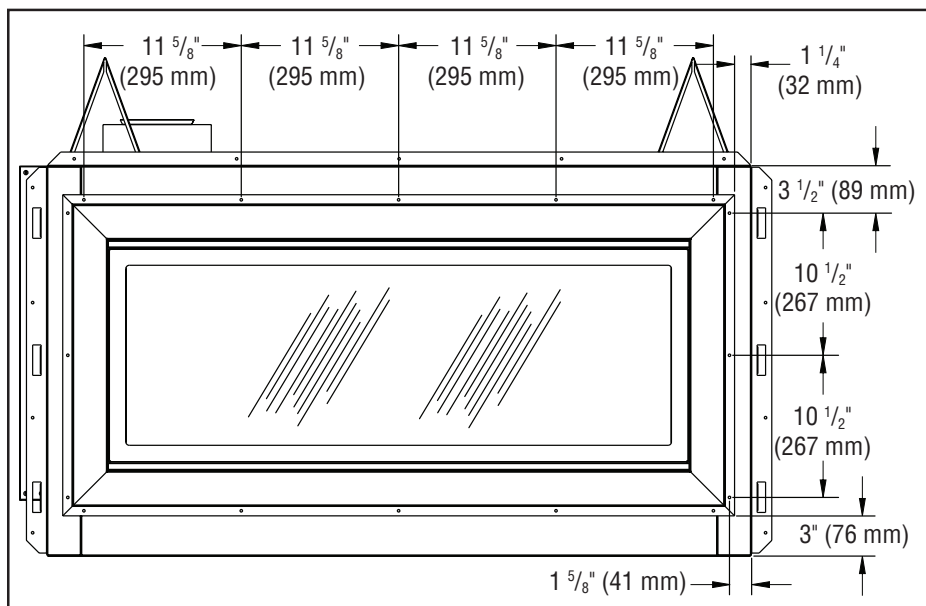

Figure 44 - Installing Exterior Door for See-Thru In/Out Application
1. Center and level exterior door on rear face of the see-thru fireplace. Exact dimensions for the location of the door are shown in Figure 44.